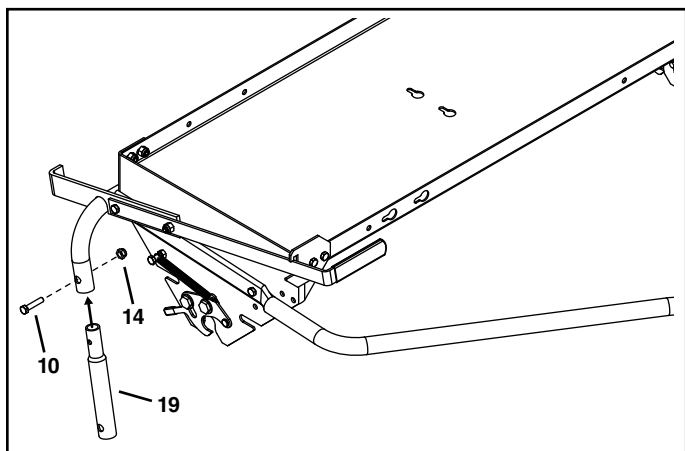

FIGURE 6
13. Attach the lower lift tubes (19) to the lift tube assembly using two 5/16 x 1-1/2" hex bolts (10) and 5/16" nylock nuts (14). See figure 6. **Tighten**.